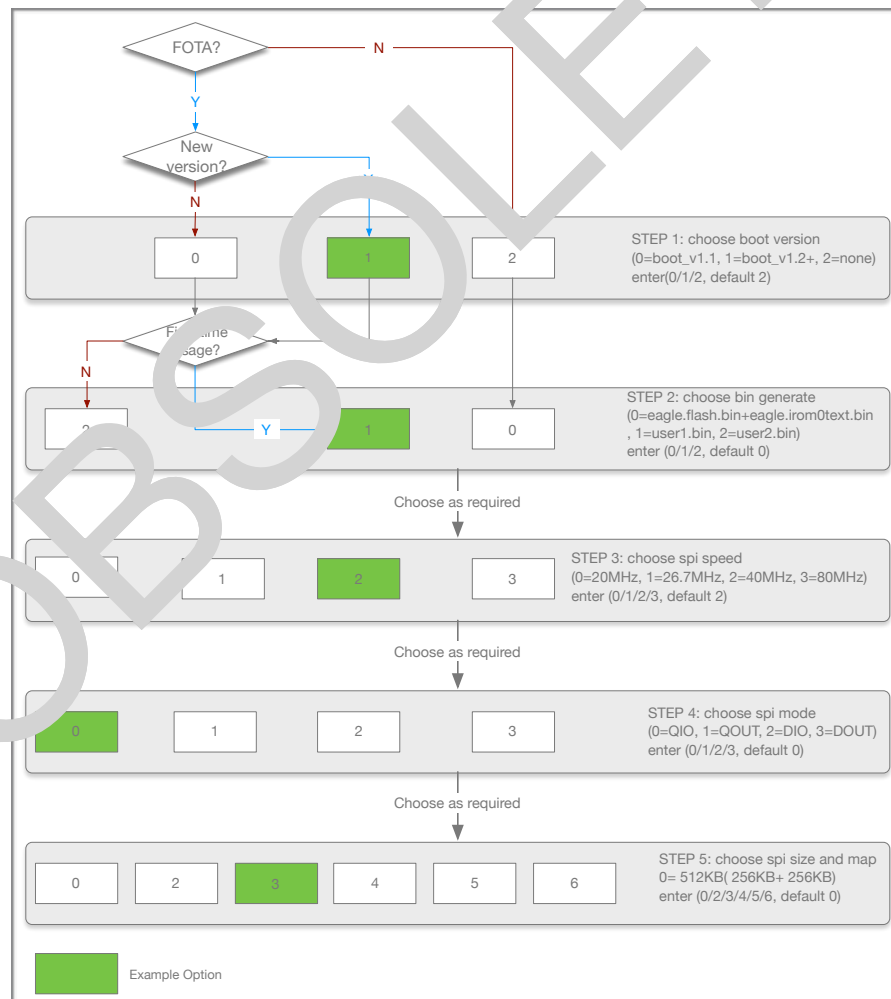

Figure 5-1. Compile SDK
2. Select the required options as shown in Figure 5-1